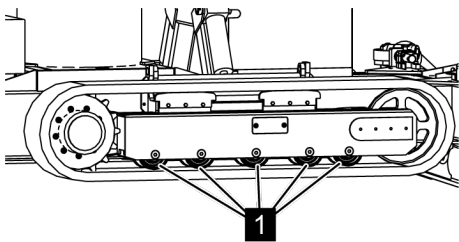

Fig. 134: Lid and cover
2. ➔ The rollers (Fig. 134/1) must turn by hand.